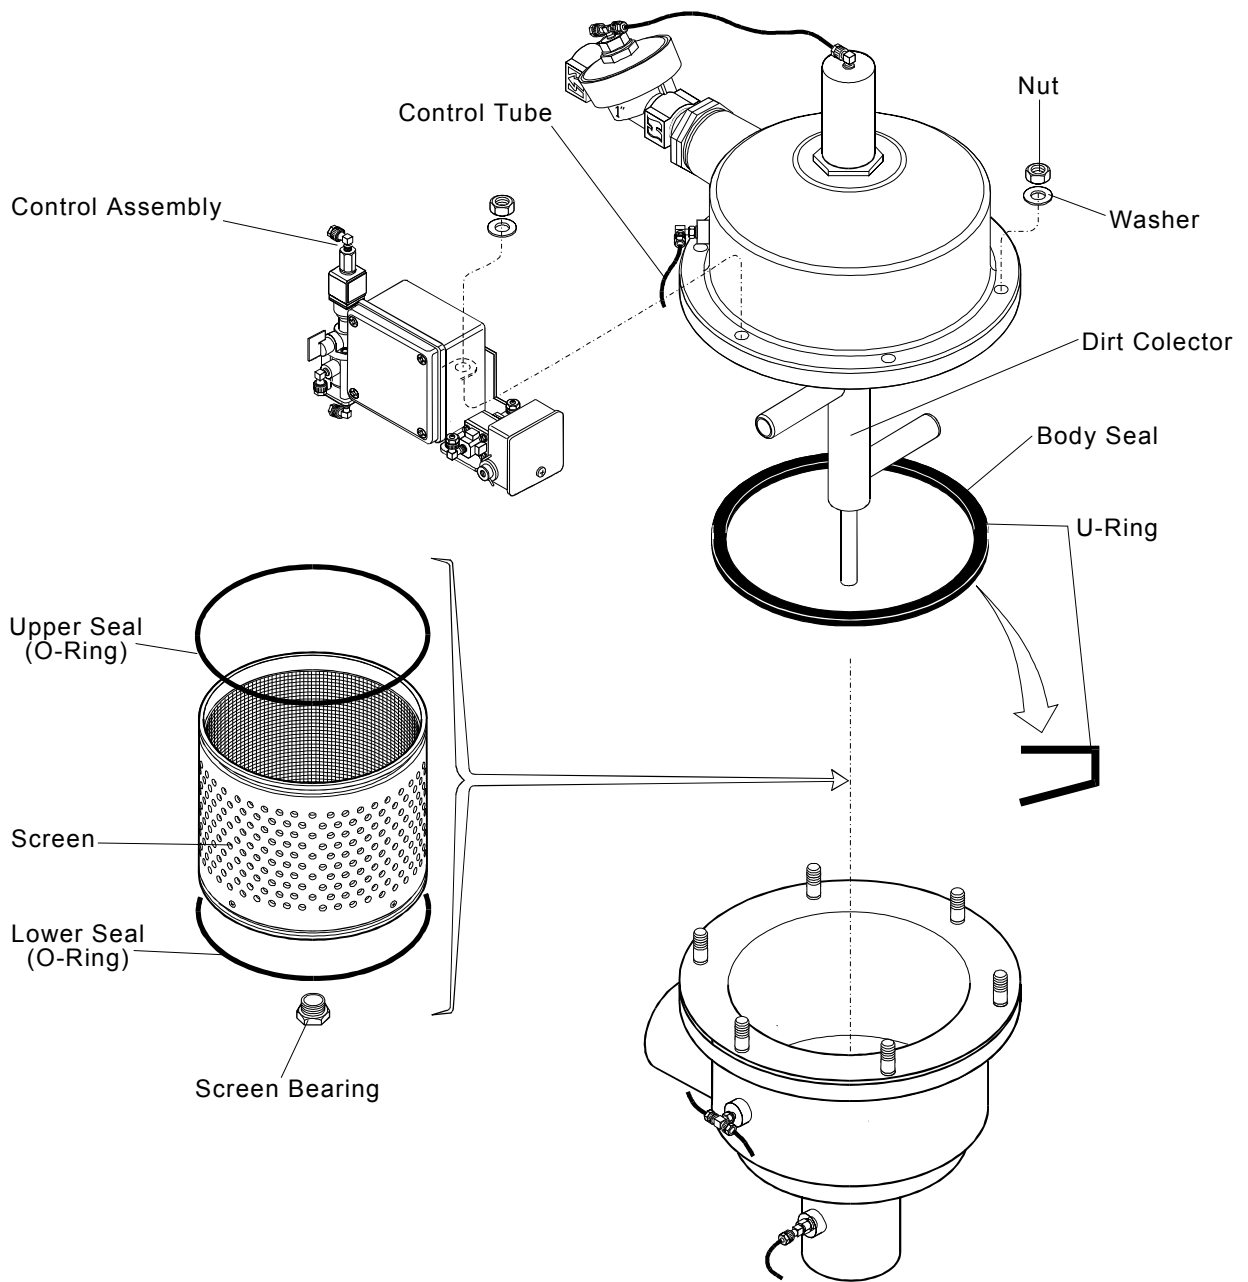

Figure 8: Screen Removal & Installation
Screen Removal & Installation (Figure 8)
4. Remove the six nuts and washers connecting both parts of the filter's housing (See Figure 8).